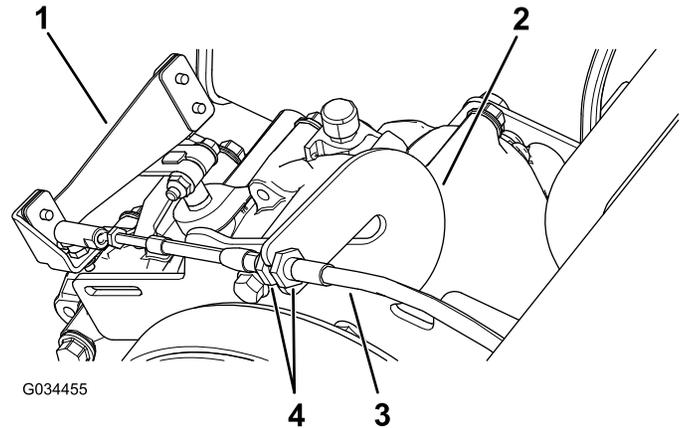

Figure 60
1. Loosen the jam nuts on the gear-shift cable and adjust them as necessary (Figure 60).
2. Test the gear-shift position by rotating the gear-shift selector to the 3 different positions and check to see if the shift lever (Figure 60) shifts properly when shifting the gears; refer to Gear-Shift Lever and Gear-Shift Indicator (page 13).